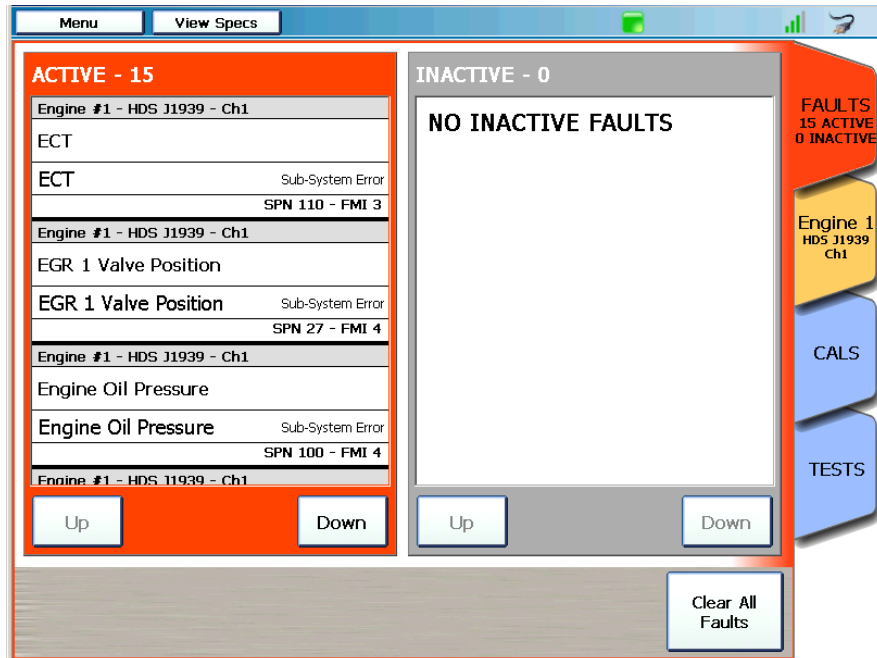

Figure 2.2 FAULTS Tab
When the scanning process is complete, the Diagnostics Menu (Figure 2.2) is displayed with the FAULTS tab in the top position.
- 5 Touch the red **FAULTS** tab to go back to the list of faults (Figure 2.2).